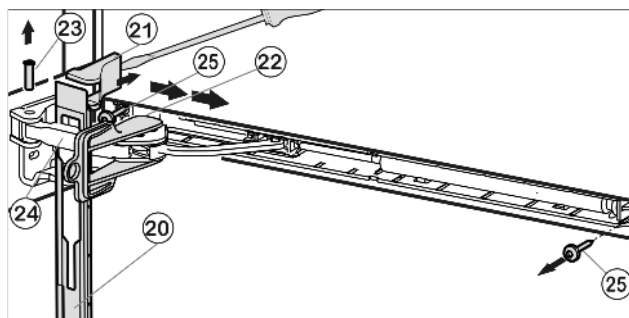

Fig. 10
- ▶ Slide the faceplate forwards over the soft stop bracket *Fig. 10 (24)* in the direction of the appliance.
- ▶ Snap the safety lock *Fig. 10 (22)* into the oblong hole.
- ▶ Using a screwdriver, lift off the cover *Fig. 10 (21)* from the outside and remove it in an outward direction.
- ▶ Press the pin *Fig. 10 (23)* out from underneath.
- ▶ Press the soft stop bracket *Fig. 10 (24)* towards the door.
- ▶ Remove the faceplate *Fig. 10 (20)*.
- ▶ Unscrew the entire soft stop unit (2x Torx® 15) *Fig. 10 (25)*.